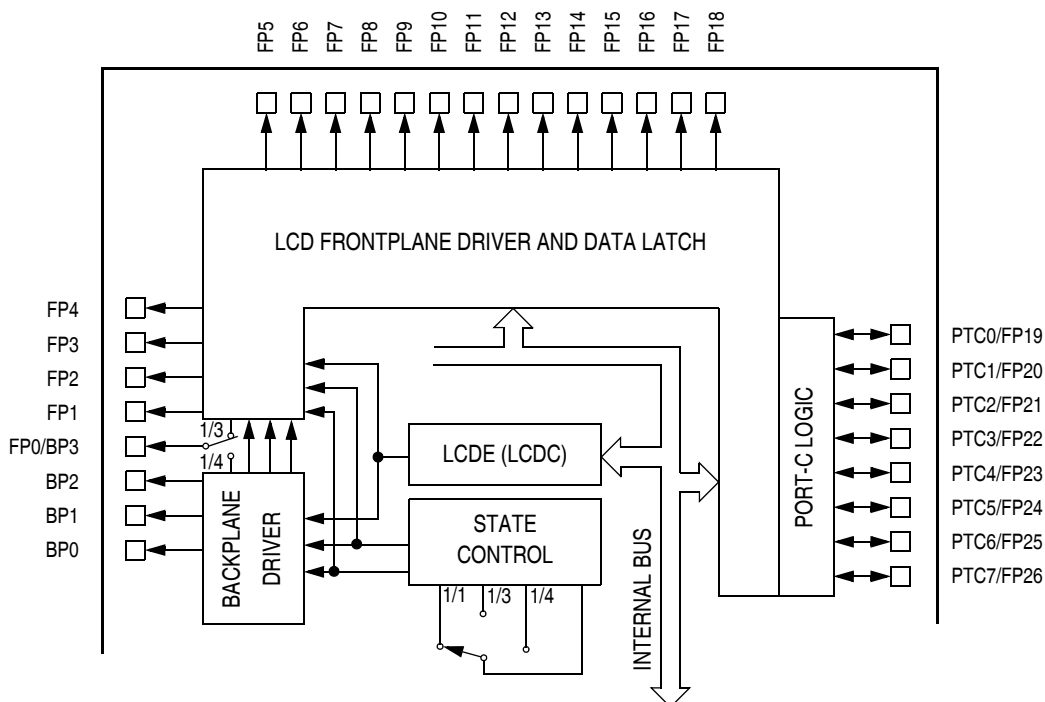
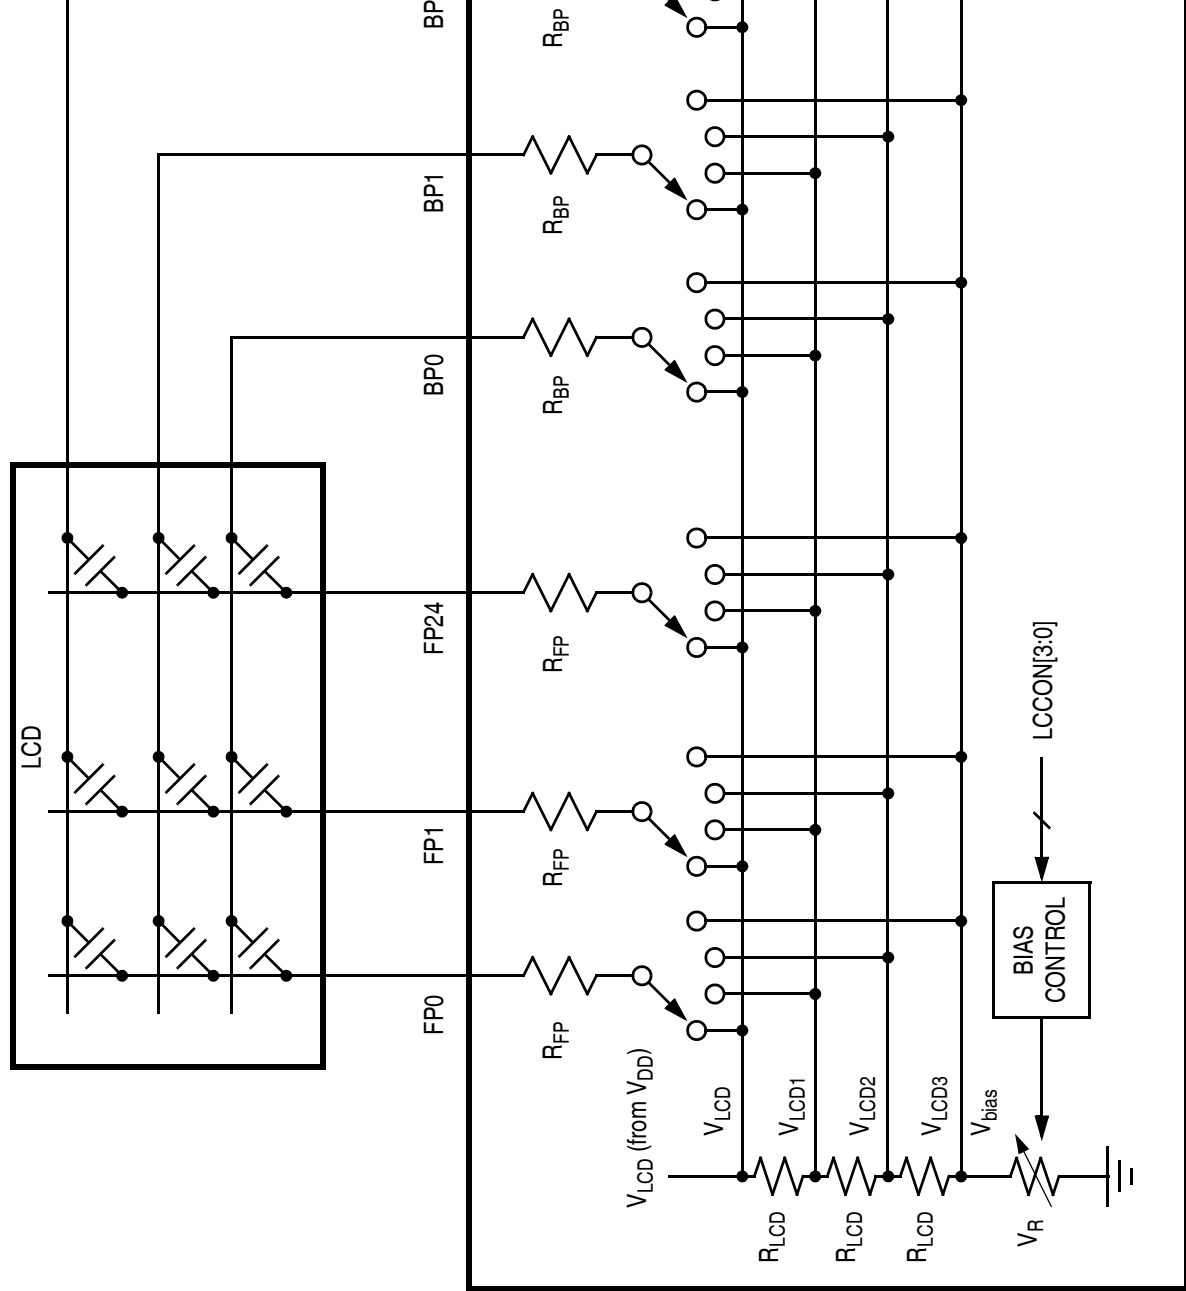

**Figure 16-2. LCD Block Diagram**
Figure 16-3. Simplified LCD Schematic (1/3 Duty, 1/3 Bias)
**Figure 16-2** shows a block diagram of the LCD driver module, and **Figure 16-3** shows a simplified schematic of the LCD system.
The voltage  $V_{LCD}$  is connected directly to  $V_{DD}$ .  $V_{LCD1}$ ,  $V_{LCD2}$ , and  $V_{LCD3}$  are internal bias voltages for the LCD driver waveforms. They are derived from  $V_{LCD}$  using a resistor ladder (see Figure 16-3).
The default value for each of the bias resistors (see Figure 16-3),  $R_{LCD}$ , in the resistor ladder is approximately  $37\text{ k}\Omega$  at  $V_{LCD} = 3\text{ V}$ . The relatively high current drain through the  $37\text{ k}\Omega$  resistor ladder may not be suitable for some LCD panel connections. Lowering this current is possible by setting the LC bit in the LCD control register, switching the  $R_{LCD}$  value to  $146\text{ k}\Omega$ .